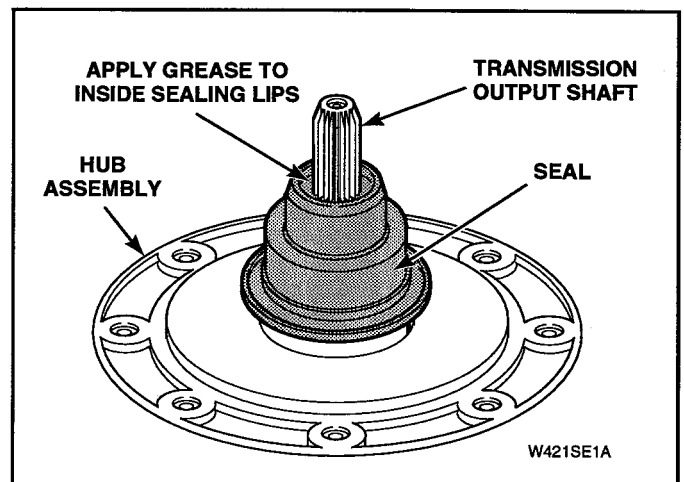

Figure 5-16
- Lubricate new seal with liquid soap or soapy water to aid in assembly of seal onto hub. See Figure 5-16.
- Apply a small amount of supplied grease, No. 36765P, to inside sealing lips of seal. See Figure 5-16.
NOTE: Top edge of front panel is held in place by two spring clips located on bottom flange of cabinet top. See Figure 5-16.